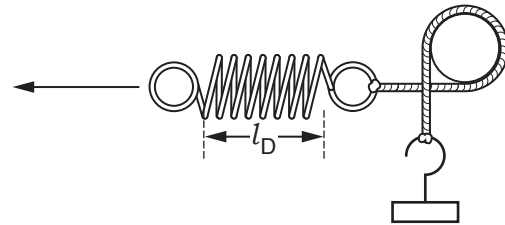

Fig. 1.4b
2. Measure the stretched length, l_D , of the spring at the instant that the mass holder starts to move when the spring is pulled **horizontally to the left**, as shown in Fig. 1.4b. The string is in contact with three quarters of the circumference of the rod.